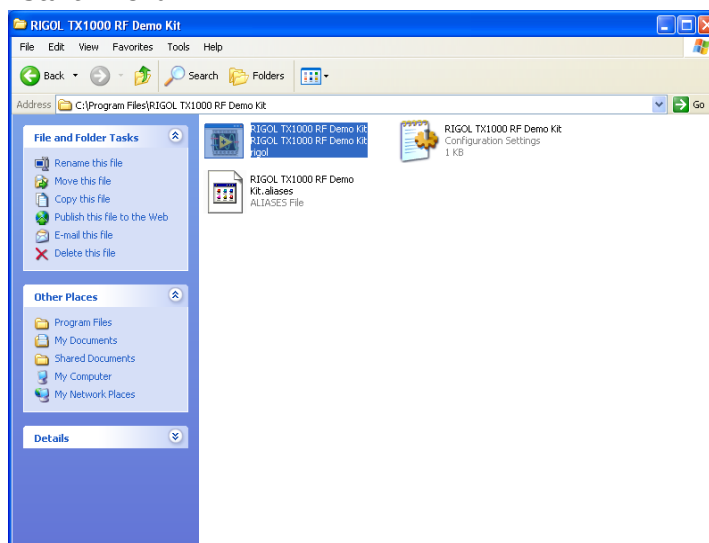

Figure 9 Software Executable Program Catalog
2. Double click the executable program **RIGOL TX1000 RF Demo Kit** in figure 9 to start the program, the program then enters the interface below: